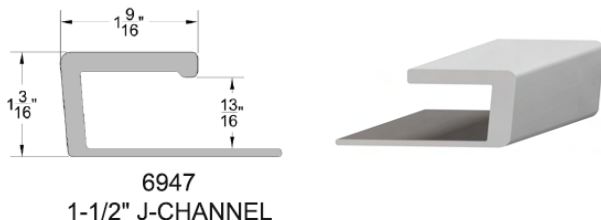

Fig. 6
3. Install the bottom trim last, after the installation of Everlast siding panel (Fig 6).